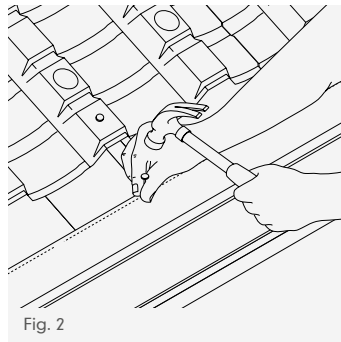

Fig. 2
- 4 Nail to top of fascia or tilting fillet using 45mm x 3.35mm (10mm OFV) or 60mm x 3.35mm (25mm OFV) aluminium nails at every nail hole position (Fig 2).
that the curved front edge dresses down over the fascia vent unit towards the gutter (each tray provides 600mm effective cover) (Fig 2).